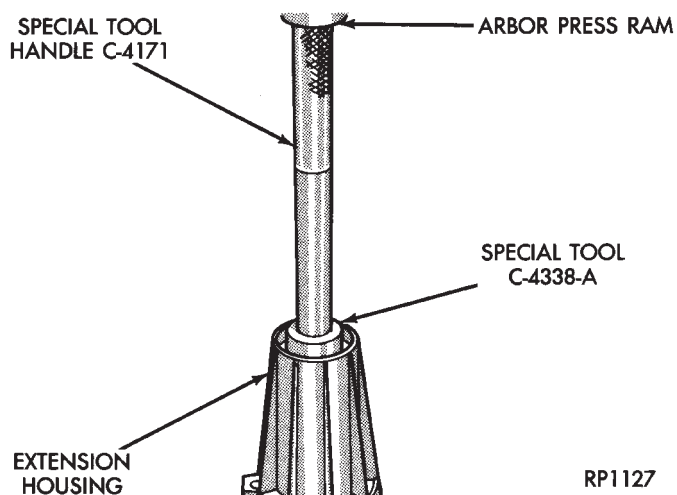

Fig. 64 Removing Extension Housing Bushing
(55) Remove extension housing bushing with Bushing Installer Tools C-4171 and C-4338-A (Fig. 64).